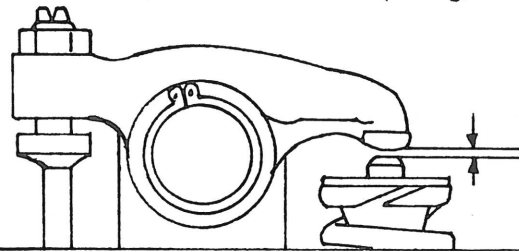

Figure 41 - Valve clearance
- Loosen the nut and adjust the clearance of both the intake and exhaust valves with the adjust screw (figure 41).